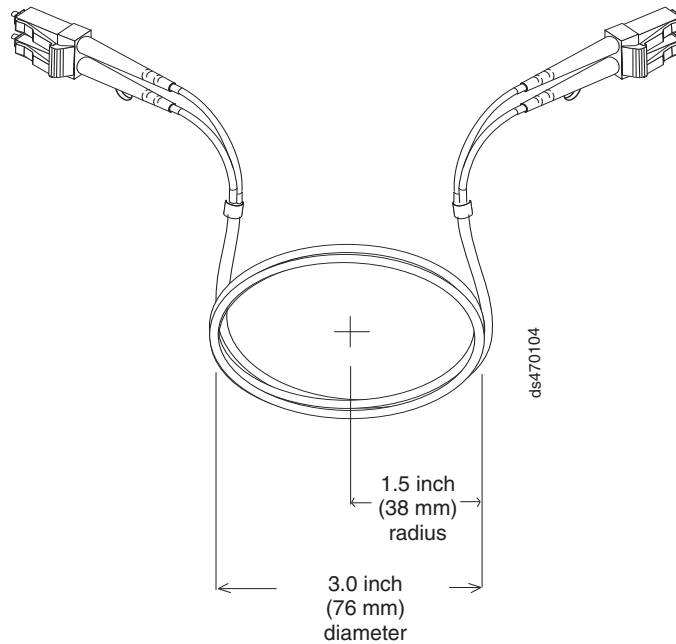

Figure 30. Recommended bending and looping specifications for fibre-optic cables
- When storing excess or unused fibre-optic cables, do not bend the cables to a diameter of less than 76 mm (3 in.), or a radius less than 38 mm (1.5 in.) or wrap them around themselves. See Figure 30 on page 55.